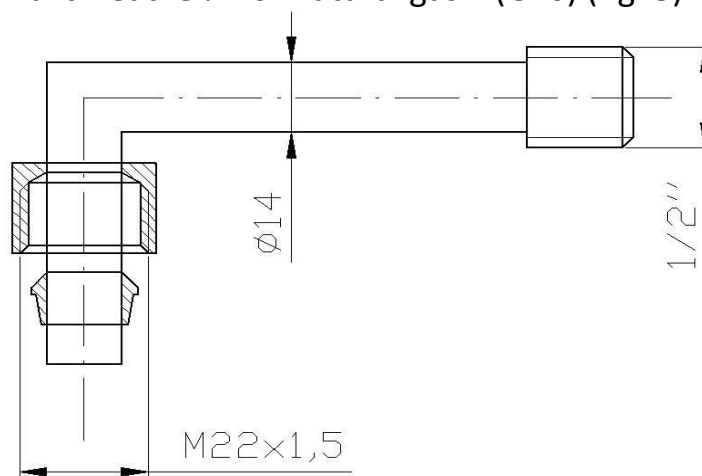

Fig. 3. Natural gas connector
- 2) natural gas E - with external thread G $\frac{1}{2}$ for natural gas E (G20) (fig. 3).